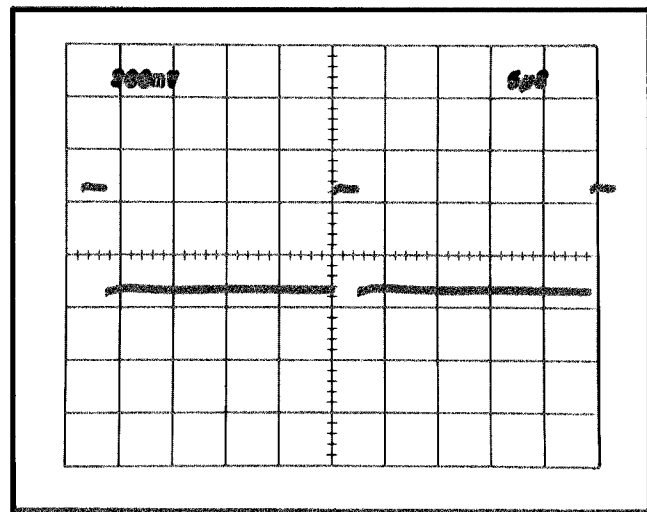

Fig. 5-16. CRT display when checking sweep holdoff time.
- CHECK—The holdoff time is 3.5 μ s or less (see Fig. 5-16).